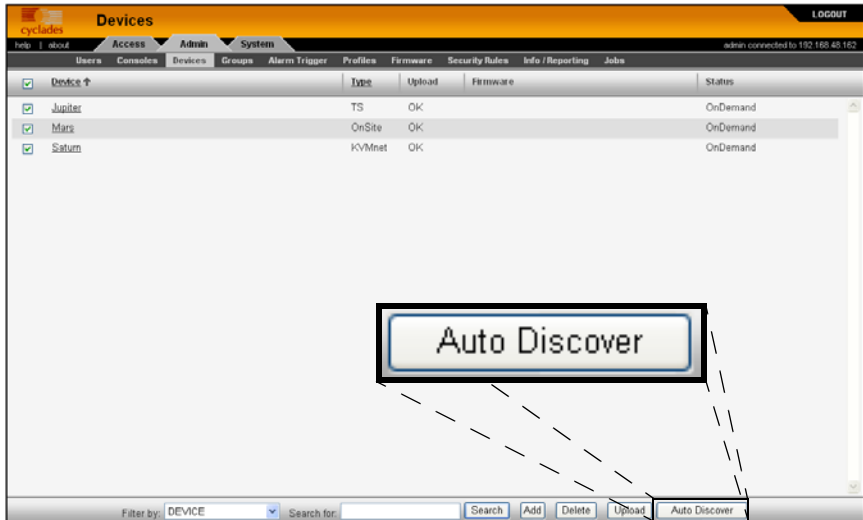

Figure 4-26: Selecting Devices for Multiple Auto Discover
3. Click on the Auto Discover button shown in Figure 4-26.